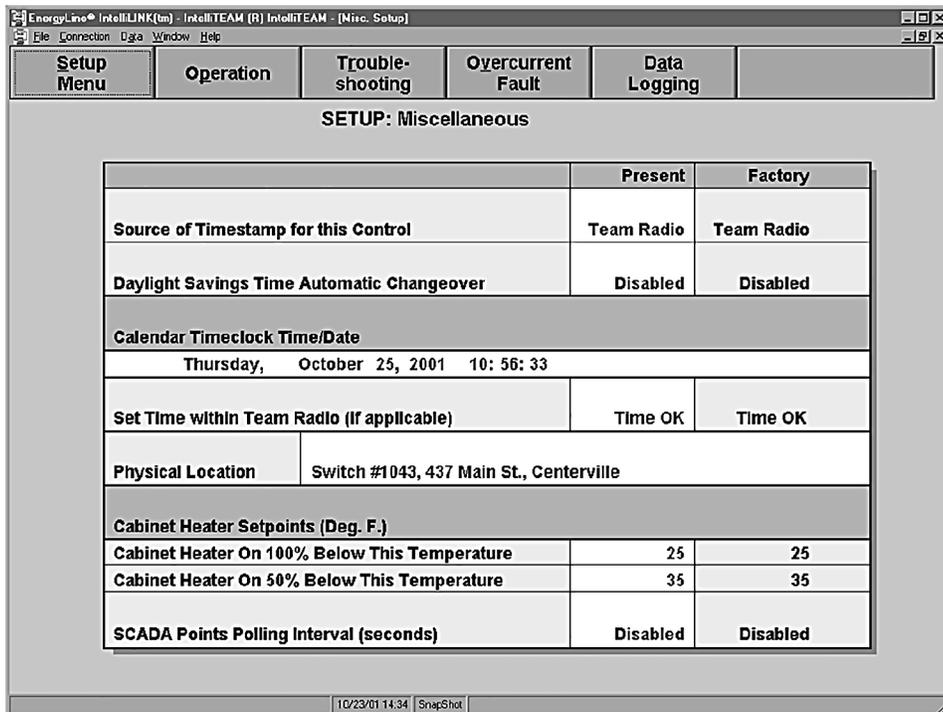

Figure 5. The Setup>Miscellaneous screen.
Follow these steps to add or change a value on a screen (for example, The *Setup>Miscellaneous* screen shown in Figure 5 on page 11):
**STEP 3.** At the Setup Menu screen, click on the **Miscellaneous** button to open the Setup>Miscellaneous screen. See Figure 5. Enter the correct values for this switch control.